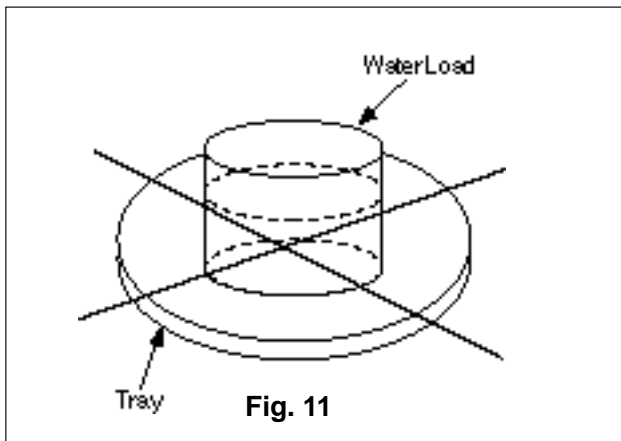

Fig. 11
- 3) The oven and the empty vessel are at ambient temperature prior to the start of the test. The initial temperature of the water is 10 ± 2°C (50 ± 3.6°F). It is measured immediately before the water is added to the vessel. After addition of the water to the vessel, the load is immediately placed on the center of the shelf which is in the lowest normal position. (Fig. 11).